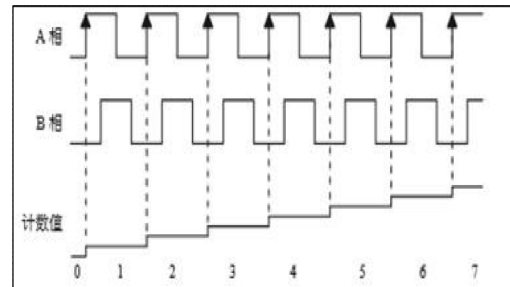

Figure 3.1.11 Two-Phase Incremental Encoding Mode
- The pulse count value increases by 2 phases, as shown in Figure 3.1.11.